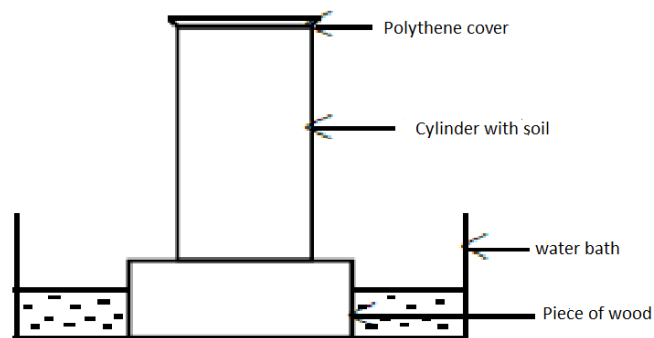

Figure 1: Wetting column
5. Prepare a wetting column from the galvanized tube as shown in figure 1 given below. Secure a screen over one end of the column with a polythene cover and a rubber band.